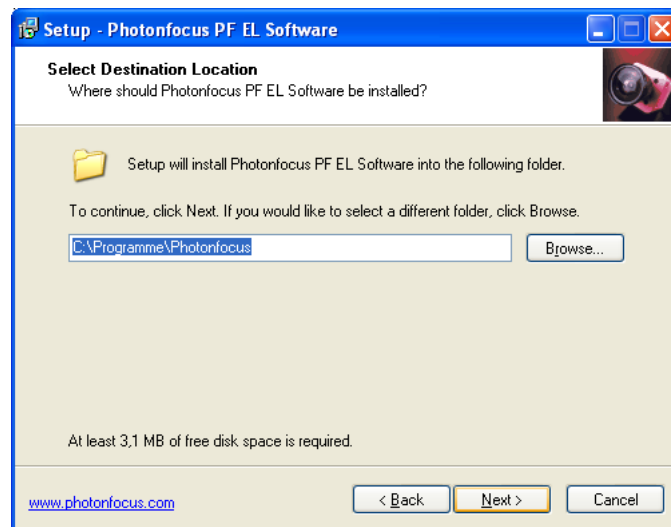

Figure 2.5: Photonfocus PF EL Installer: select destination folder
5. Select the destination of the PF EL software and click on the Next button (see Fig. 2.5). It is recommended not to change the proposed setting.